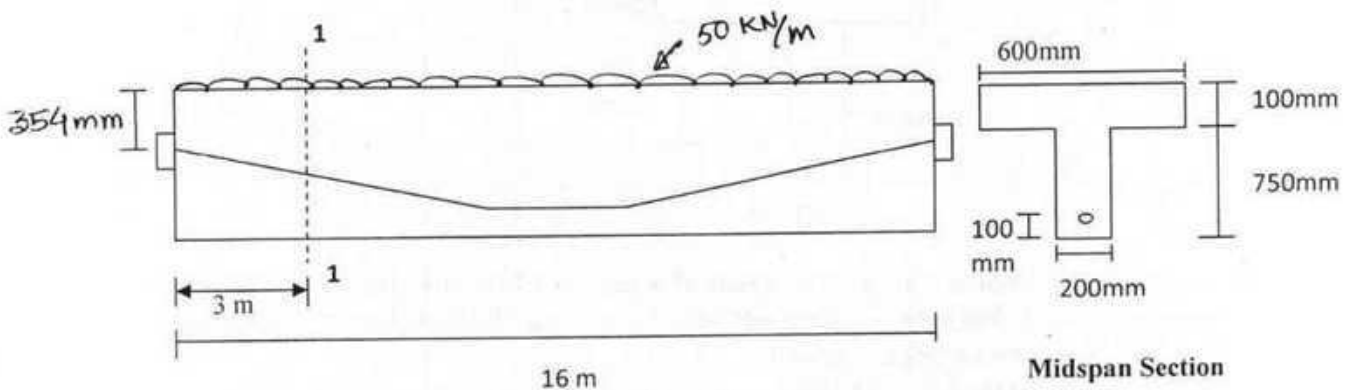

Figure 3
5. (a) Why is the shear capacity of prestressed concrete beam higher than corresponding R.C beam? (5)
(b) Check shear strength of the beam shown in Figure 3 at section 1-1 which is at 3 m from the left support. Use both equation (web shear crack and inclined shear crack) for shear strength evaluation. Effective prestress with 20% loss = 1300 kN. Use $f'_c = 40$ MPa, $A_s = 920$ mm². Self weight of beam is 6.5 kN/m. c.g. of the T beam section is located at 354 mm below the top fiber. (20)